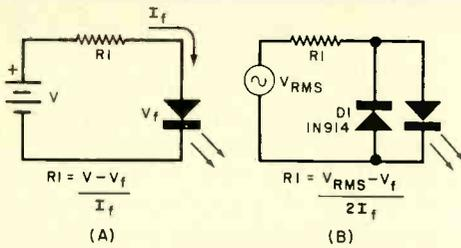

Fig. 4. Calculation of series current-limiting resistor for dc shown at (A); for ac, shown at (B).
**Driving LED's.** A LED can be driven by either an ac or dc source, requiring a current-limiting resistor in either case. The two basic driving circuits are shown in Fig. 4. The equations show how to determine the value of the limiting resistor.